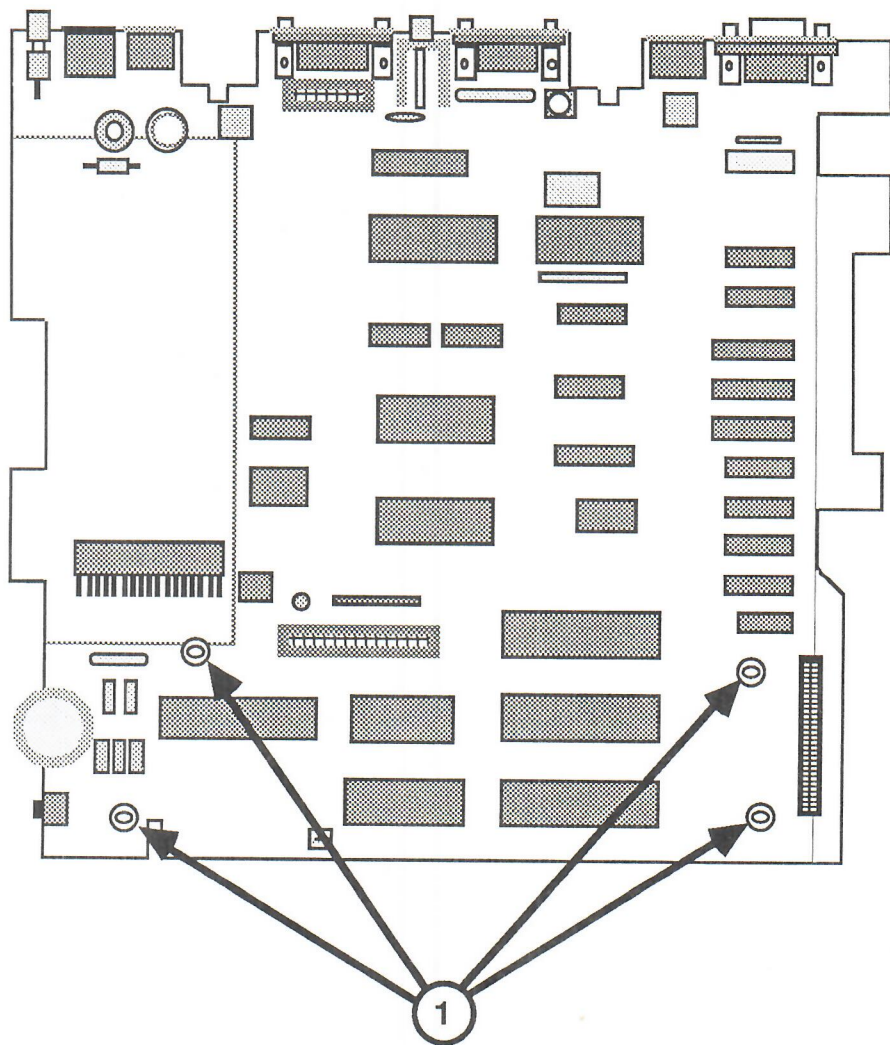

FIGURE 2
4. Insert the flared end of each stand-off into one of the four holes in the logic board, and press until it clicks into place. Repeat this for each of the three remaining stand-offs. Refer to Figure 2, #1 for stand-off locations.